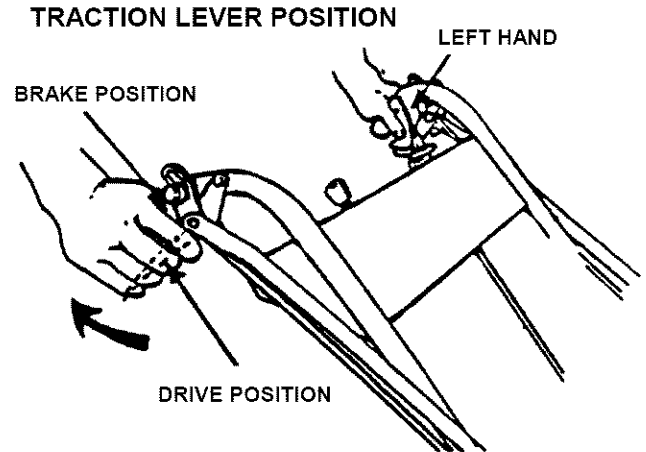

FIGURE 3.11
12. The machine is **TURNED** by declutching wheel drive belts while engaging wheel brakes - turn left by squeezing the left hand traction lever or turn right by squeezing the right hand traction lever. See Figure 3.11 pistol grip. The more pressure applied while squeezing the traction lever, the sharper the mower will turn.